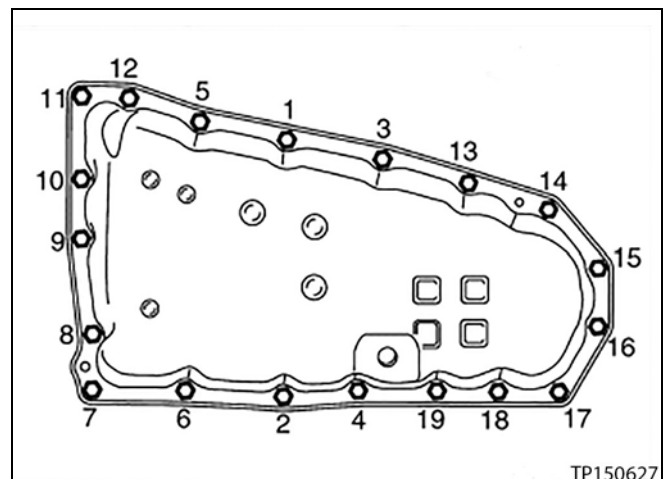

Figure 12A
11. Install the oil pan bolts (see Figure 12A).